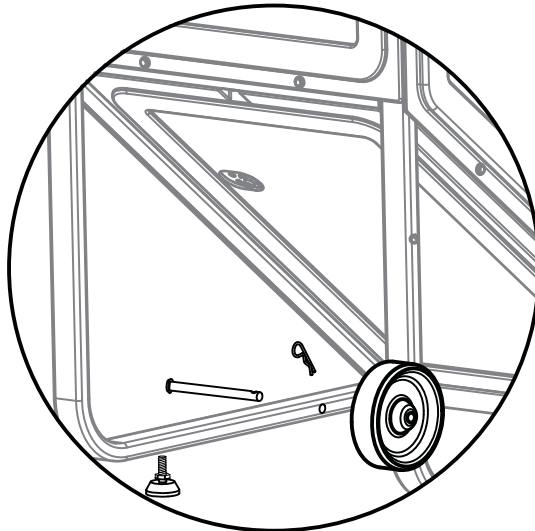

Figure 9
**9-2** With the assistance of another person, tilt the StepMill® machine to one side and remove the Cotter Pin, the Clevis pin and the Wheel (Figure 9). Repeat for the opposite side.